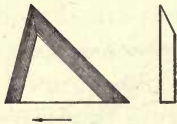

FIG. 166.—A SHARP TOOTH.
Therefore a tooth intended for very soft wood, as basswood, redwood, or butternut, should be very sharp; while that intended for white oak, hard maple, or osage orange should be blunt. A tooth shaped as in Fig. 166 will do very well for very soft woods. The bevel, or fleam, has a very wide front and
**Filing.**—When the saw has been jointed and set, then proceed to file it. In filing a crosscut saw, hold the file horizontally, and at an angle of 45 degrees with the edge of the blade, when filing a tooth represented by Fig. 166. For filing a tooth shown by Fig. 167, hold the file horizontally with the blade and at an angle greater than 45 degrees with the edge. For a tooth shown by Fig. 168, hold the file horizontally and at an angle of about 60 degrees for the front fleam, and at an angle of 90 degrees for the back of the tooth. Begin at the heel of the saw and file towards the point.